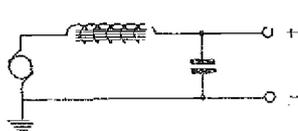
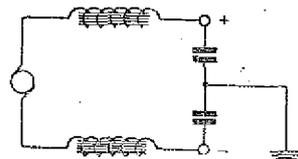

Fig. 1.—A simple method of reducing interference from a direct current machine.
Fig. 2.—Another filter circuit. Add another section if necessary.
From the circuit (Fig. 1) it will be seen that a loose coupled aerial tuner is used, and by means of "U" links the inductance values of both aerial and closed circuits can be varied. Additional plug-in coils may be inserted in holders to extend the wave range to the broadcasting band and beyond.
Fig. 1.—The circuit is a detector valve with reaction followed by a note magnifier. The short wave tuning inductances are shown while loading coils may be added at A and B or inserted into the plug and socket connectors in place of the "U" links.
as provided by the earth wire, and if a counterpoise is not used, the leads shown dotted in Fig. 1 should be inserted. With a counterpoise the aerial and closed circuits are entirely separated.
In order to avoid any eventual trouble of this kind, I have carried out further experiments, and find that an equally good H.T. supply can be obtained from the mains by the method shown in Fig. 1.
- Shunt machine with condenser of the order of 4 microfarads if one side is earthed. Include a low-resistance choke of large inductance as shown in fig. 1. When machine is not earthed use methods of figs. 2 or 3. The machine terminal should not be earthed unless it is absolutely essential.